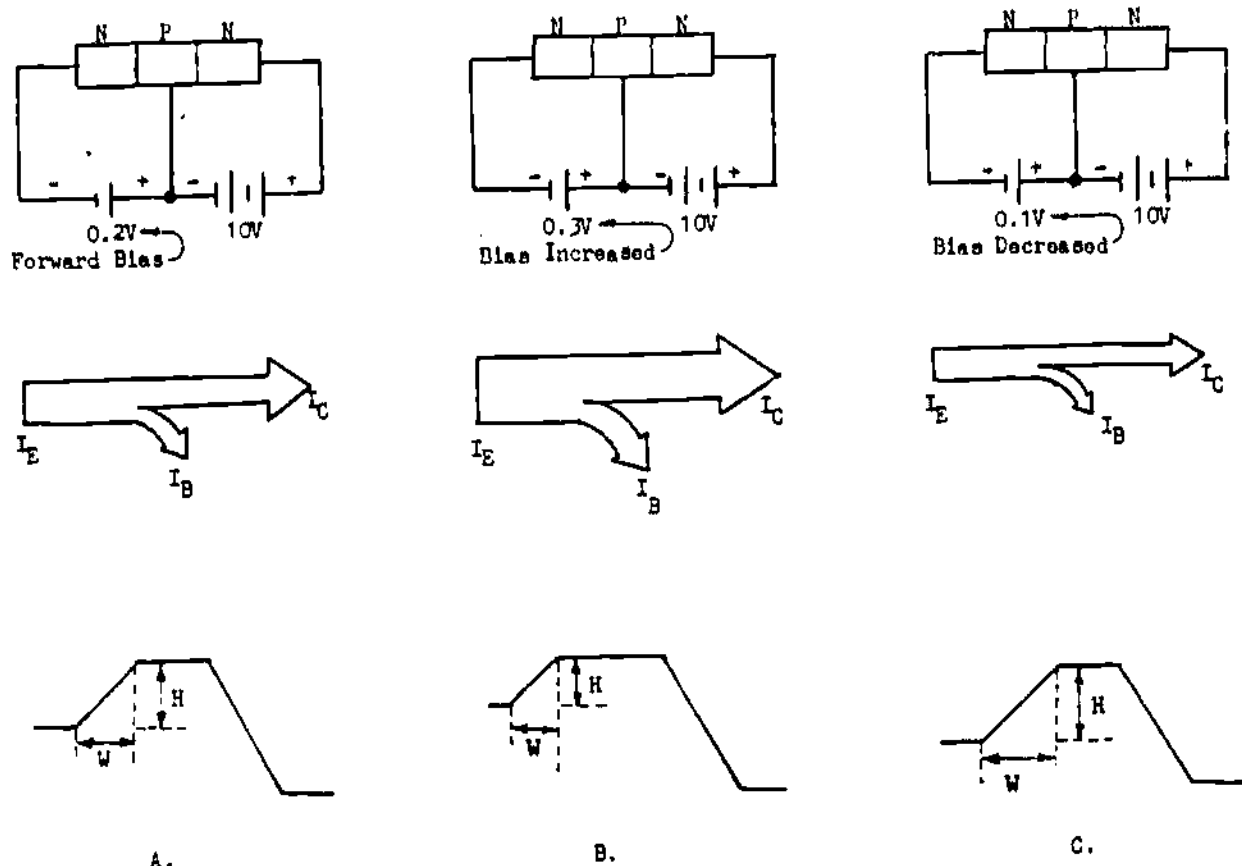

Figure 2-7. Controlling Effect of Forward Bias (NPN) Showing the Amount of Bias (top), the Resulting Electron Flow (center), and Energy Level Diagram (bottom)
2-28. The fact that the emitter-base voltage is relatively small (with a correspondingly small base current) does not mean that it is unimportant. The emitter-base voltage and its effect on base current can be considered the **CONTROLLING FACTOR** for the transistor. To illustrate the controlling effect the emitter-base voltage has on the transistor currents, refer to Figure 2-7. Figure 2-7A shows an NPN transistor with 0.2 volts of forward bias and 10 volts of reverse bias. The simplified energy level diagram shows the height (H) and width (W) of the base-emitter junction barrier. Under these conditions current will flow from emitter-to-base and emitter-to-collector. The width of the arrows indicate the relative magnitudes of I_E , I_B , and I_C . Figure 2-7B has the forward bias voltage increased to 0.3 volts. The increase in forward bias reduces the base-